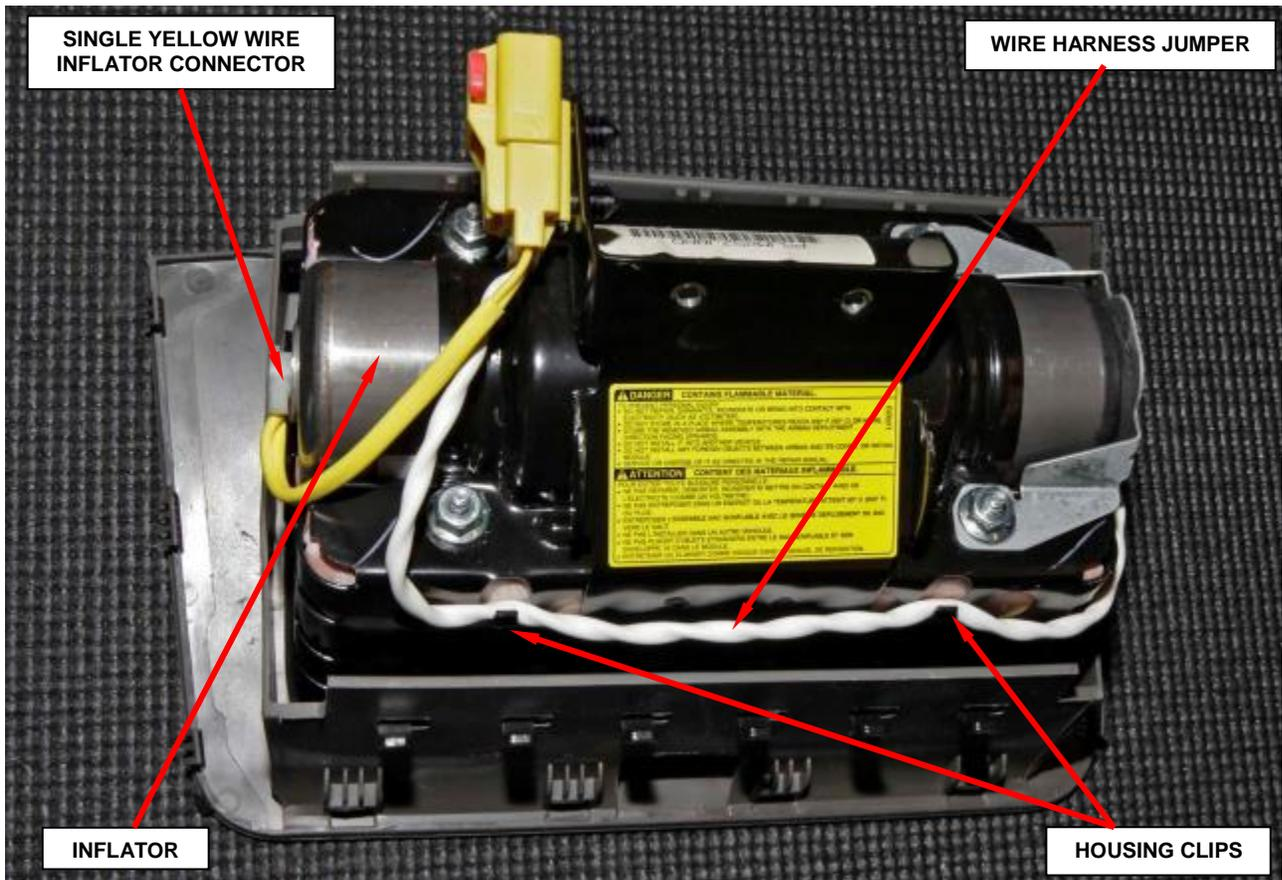

Figure 34 – Passenger Airbag Assembly
- b. Disengage the wire harness jumper from the housing clips in two places (Figure 34).
- c. Disconnect the single yellow wire inflator connector from the end of the inflator (Figure 34).
- k. Connect the single yellow wire inflator connector to the end of the inflator after removing the protective tape from the end of the inflator (Figure 34).
- l. Engage the wire jumper to the housing clips in two places (Figure 34).